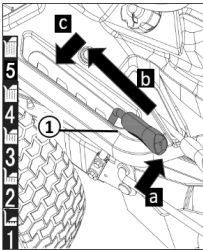

Figure 22
The ride on mower's mowing mechanism can be set to various heights using an adjusting lever (Figure 22 ①) on the right-hand side of the operator's seat.
- 1. Move the adjusting lever in the required direction (Fig. 22 a, b, c):
1. Set the uppermost cutting height with the adjusting lever (Fig. 22 ①).
3. Set the required cutting height with the adjusting lever (Fig. 22 ①).